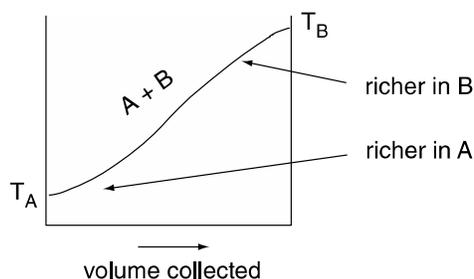

Figure 16-4: Simple distillation curve.
Suppose you mix two compounds, A and B, in approximately equal amounts in a distillation flask. The boiling point of A (T_A) differs from that of B (T_B) by less than 100° . Observation of the temperature during a simple distillation of this mixture would show a gradual increase in temperature from the boiling point of the lower boiling component A to that of the higher boiling component B (Figure 16-4). If you collected samples (or “fractions”) of the distillate as the distillation proceeds, you would note that the first fractions are richer in component A, and the last fractions are richer in component B. The simple distillation will not clearly separate the two components.
4. Refer to Figure 16-4. If the mole fraction of B in the liquid is 0.8, what is the composition of B in the vapor above the liquid? What will be the reading on the thermometer at this point?